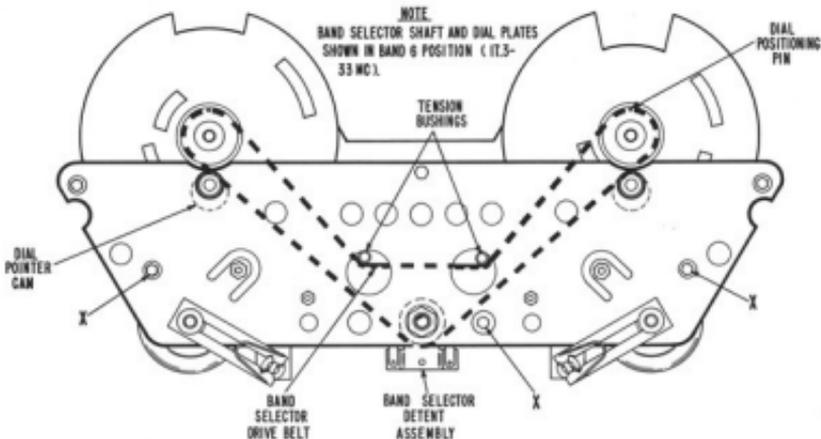

Fig. 13. Front View of Gear Drive Mechanism
#### 7-5. BAND SELECTOR DRIVE BELT REPLACEMENT (Refer to Fig. 13)
10. Remove gear mechanism from chassis by removing three self-tapping hex head screws marked "X" in Fig. 13.
**CAUTION:** To prevent scratching the dials, position the dial pointer cams downward as shown in Fig. 13 and bend the dials sufficiently when removing to provide clearance between the dial and dial pointer cams.
16. To replace drive belt, reverse sequence used above for removing belt. When replacing belt, position both dial plates so that cutout at outer edge of dial plate is vertical as shown in Fig. 13. This is correct position of dial plates when the Band Selector is set at Band 6.